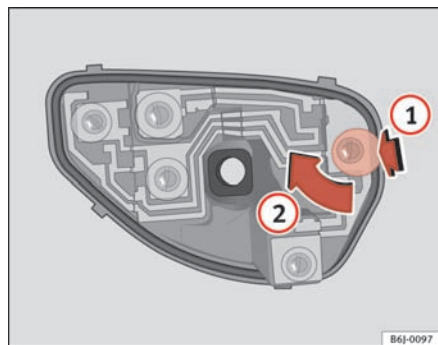

Fig. 143 Changing bulbs on rear lights
- Once the lamp holder has been removed, press in the direction of the arrow (1) and at the same time, turn in the direction of the arrow (2) ⇒ fig. 143. ■